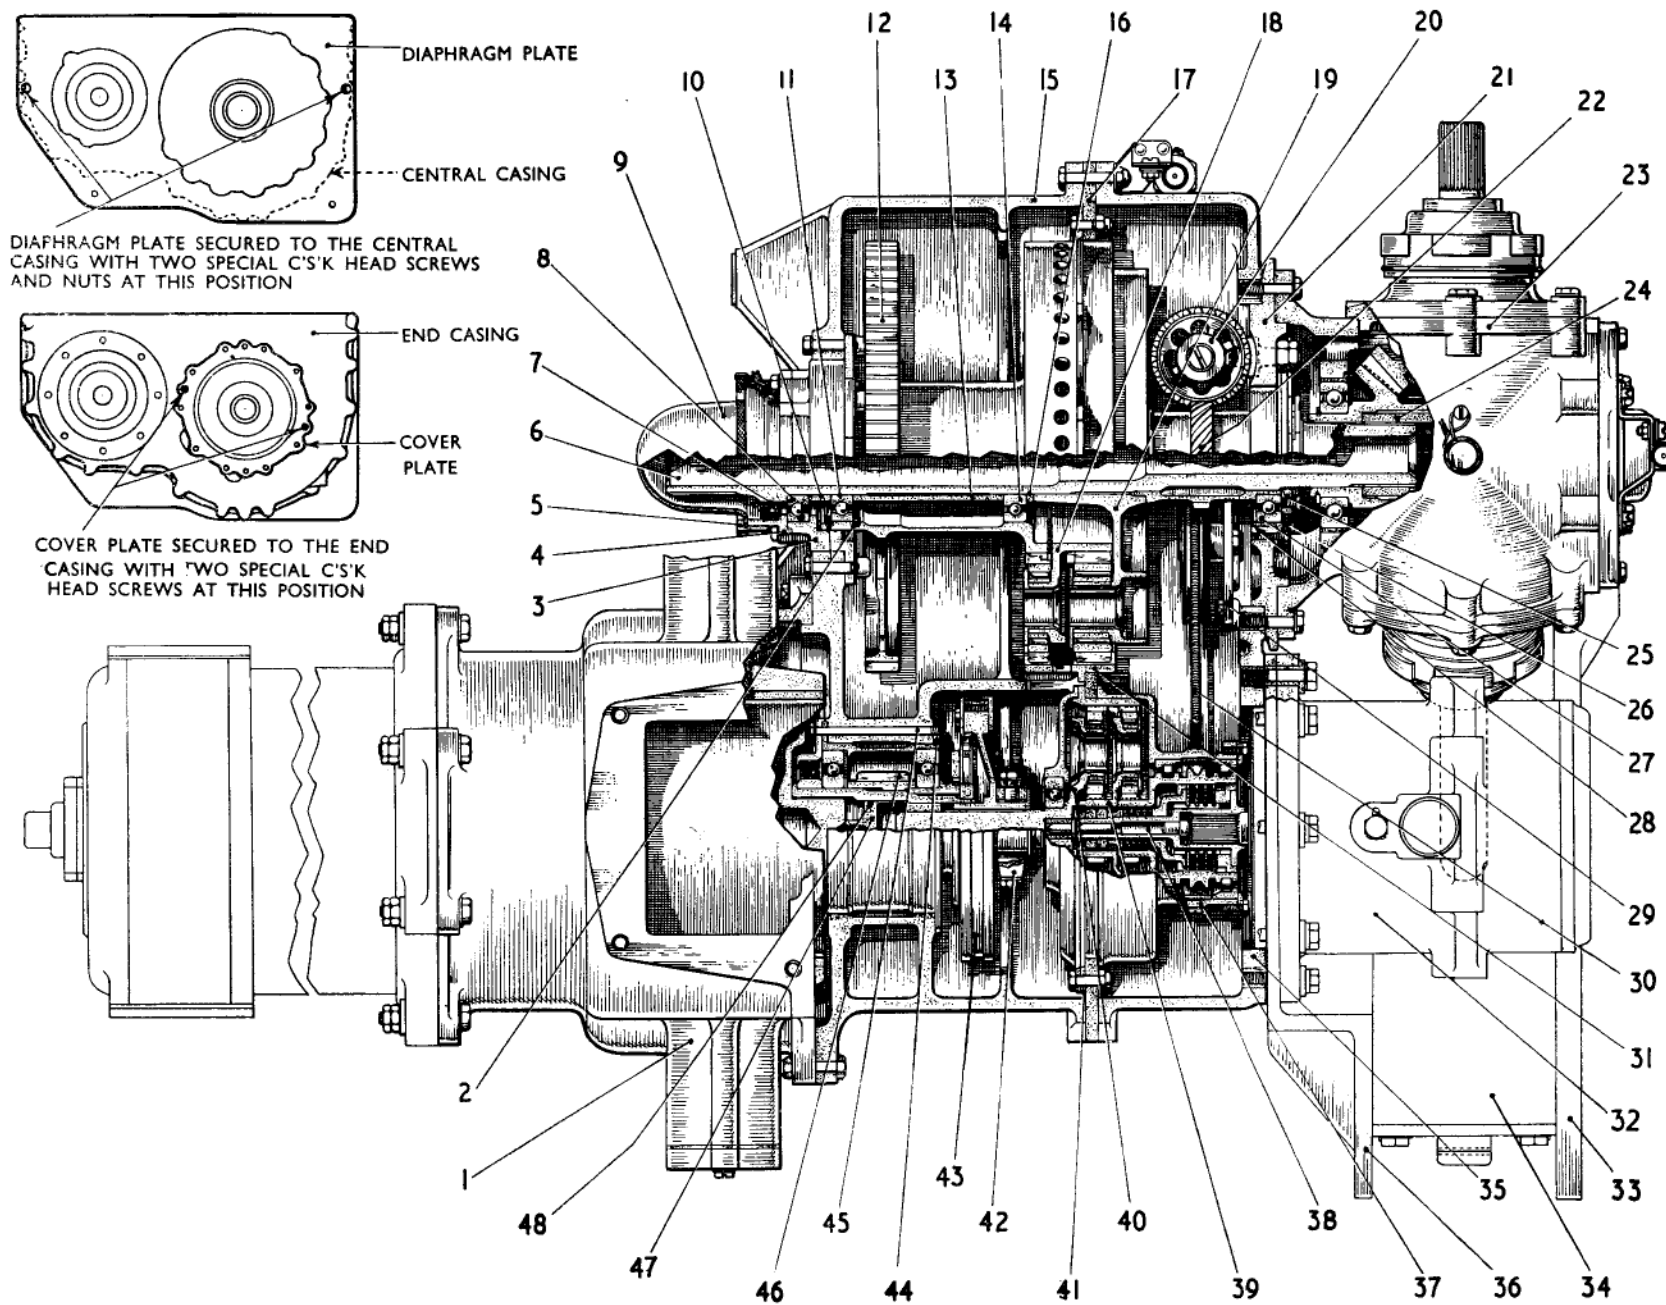

Fig. 19. Flap gearbox—main assembly
KEY TO FIG. 19
notations refer to fig. 19. To assemble the gearbox proceed as follows:—
- (5) Mount this partial assembly in the central casing (15) and bolt the locator (3) to the casing, *taking great care that the shaft ball bearing is not subjected to wracking loads (caused by movement of the unsupported end of the shaft) during this or subsequent assembly operations.*
- (6) Bolt the main epicyclic drum (31) to the diaphragm plate (17) and secure the latter to the central casing by the two countersunk-head screws shown in detail on fig. 19. Mesh the main input planet carrier (18) with the epicyclic drum (31) and the primary sun. Slide the bearing seal (16) over the main shaft and follow with the main output planet carrier (19), meshing with the epicyclic drum and the input sun. Fit the selector drive
- (9) Pass the assembled cover plate (21) over the main shaft, carefully meshing the spiral gears, and secure the assembly to the end casing (35) by the two special countersunk-head screws as shown in detail on fig. 19.
- (10) Fit, tighten and lock the main shaft nut (25) (Table 4/16).
- (11) Stretch the lubricator band (30) and fit it on the grooved wheel.